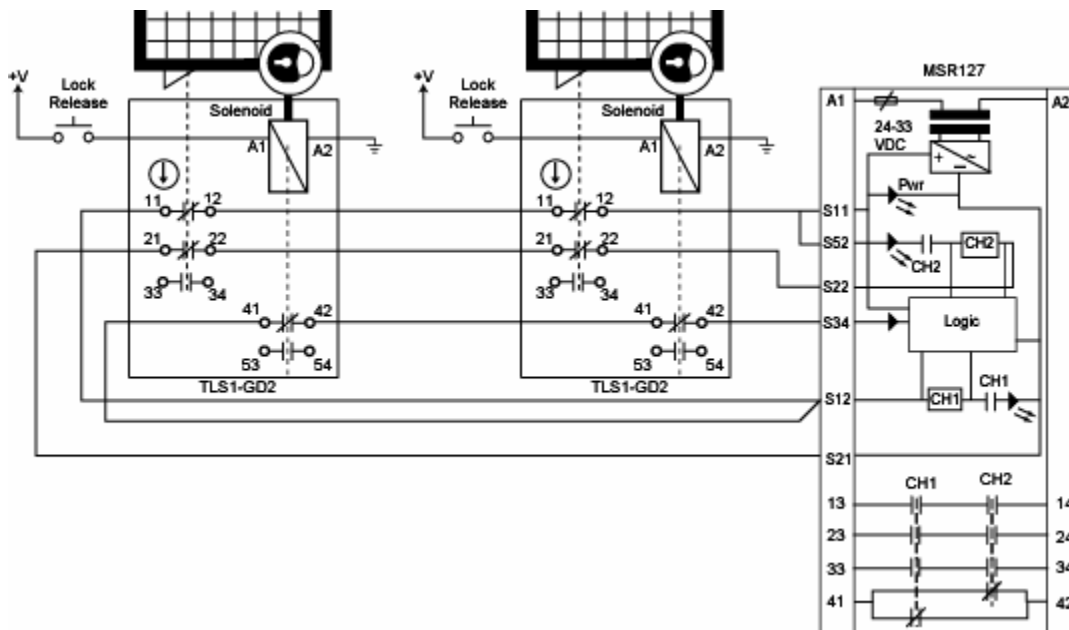

Figure 11. Multiple TLS1-GD2's
- h. Lock Release Button - When connecting multiple TLS1-GD2's, a pushbutton is recommended at each gate. Gates often become misaligned due to wear, damage or misfits. Sometimes, this causes a gate to be slightly open. If all the solenoids are powered at the same time, then one or more gates may open slightly when the power is removed. If wired per Figure 11, then the safety relay will be satisfied but the monitoring loop will remain open. There will be no indication as to which gate is open. With a pushbutton at each gate, the gate will remain locked unless access is made by pressing the button.
- j. The input circuit arrangement shown in Figures 11 meets the requirements of EN954-1 Category 3.